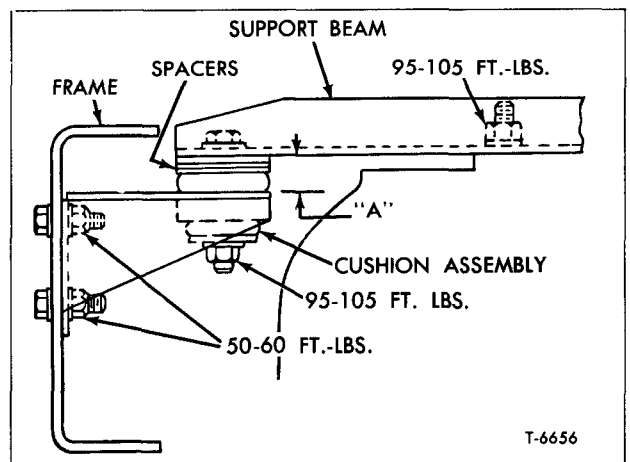

Figure 4—Transmission Rear Mounting (Conv. Cab with RT 0913, except HN, JN 90)
NOTE: The following installation instructions apply to transmissions with the rear mounts as shown in figures 4 and 5.
e. Raise transmission sufficiently to permit installation of shims and other rear mount attaching parts as shown in figures 4 and 5. Be sure all attaching parts are properly torqued.